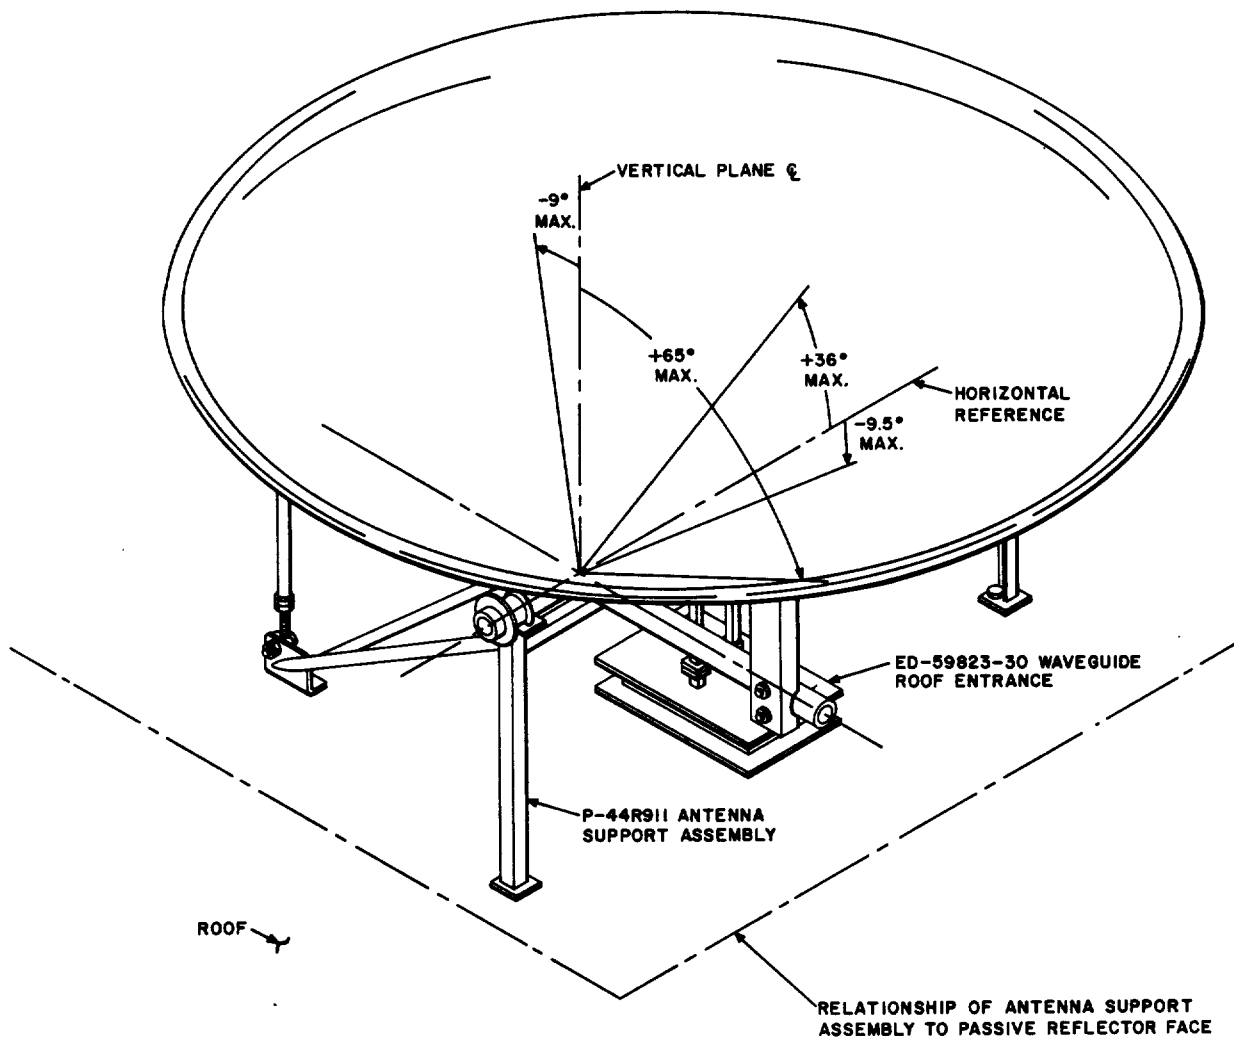

Fig. 16—ED-59804-30 Roof Mounting, Directivity of Antenna on P-44R911 Antenna Support Assembly
**5.52** Local supervision shall determine the mounting position of the P-44R911 antenna support assembly based upon the location of the associated passive reflector in the periscopic system. Fig. 16 illustrates the relationship of the antenna support assembly to the passive reflector.
(b) After the ED-59823-30 roof entrance assembly is attached to the roof (Fig. 16), install flashing completely up to the underside of the upper flanges on the roof entrance assembly. Apply roofing cement over flashing to ensure a watertight joint.